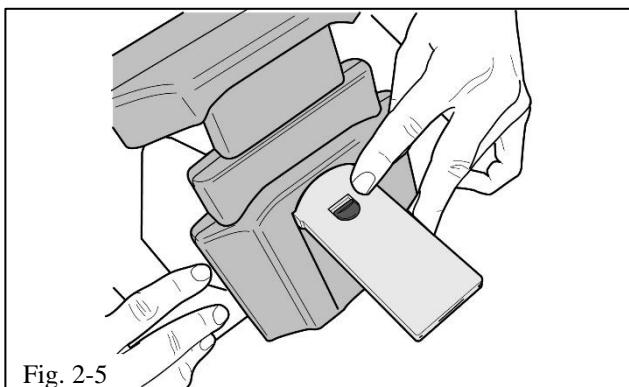
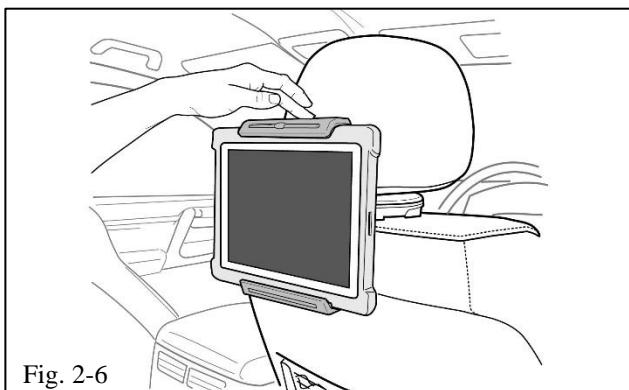
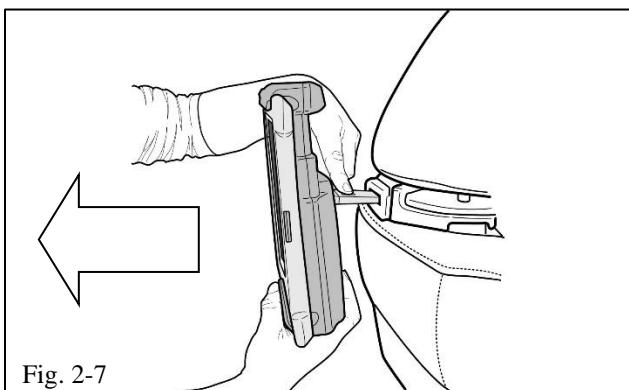

Fig. 2-5
Fig. 2-6
Fig. 2-7
- (c) To remove the Holder, press the locking button and pull towards the rear seat (Fig. 2-5, Fig. 2-6 & Fig. 2-7).